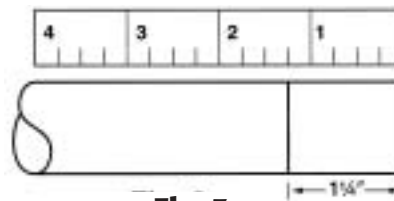

Fig. 3
6. Mark the hose 1-1/4" ($\pm 1/32$ ") from the end of the hose with a marker pen. Do not damage hose. See Fig. 3.